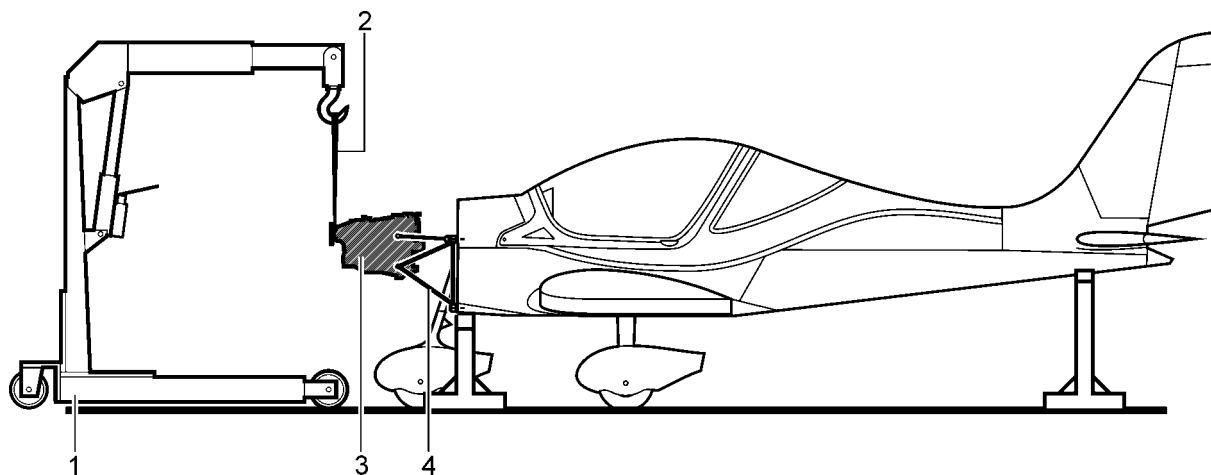

Fig. 1 – Securing the engine against falling
- 1.3.1.9 Hang the engine (3, Fig. 1) on the workshop crane (1) using the suspension strap (2). The engine (3) is now secured against falling.
- 1.3.1.21 Release the engine from the mounting crane (Fig. 1).
Legend to Fig. 1